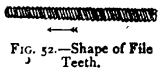

FIG. 52.—Shape of File Teeth.
**Filing.**—A file is as much a cutting tool as a graver. Fig. 52 shows an enlarged view of file teeth. They are like saw teeth, or a succession of chisels one following the other. The idea is prevalent among some that a file is a thing to be rubbed to and fro over a piece of metal to wear it away after the manner of a piece of emery cloth. But a file needs careful and intelligent using like any other